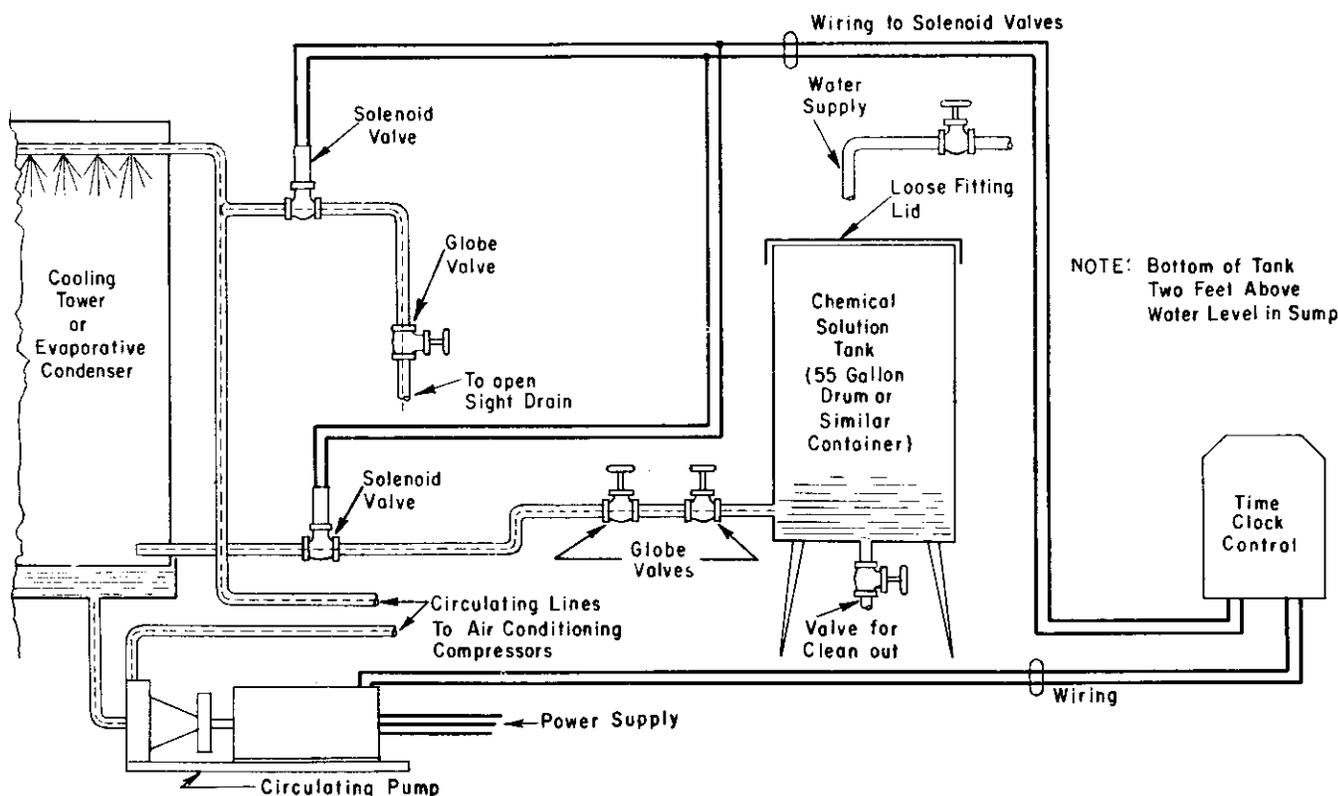
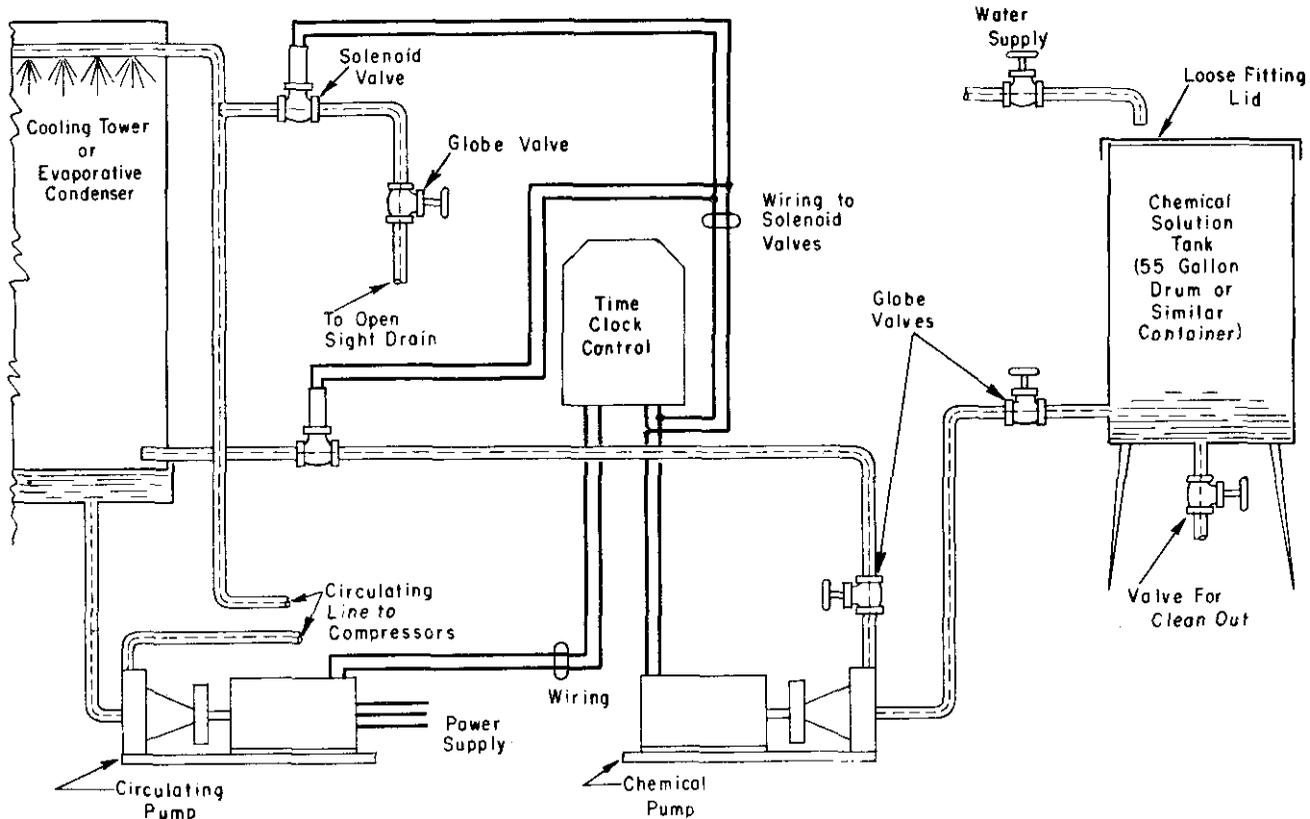

Fig. 2 - Timer - Solenoid Valve Gravity Chemical Feed System
Fig. 3 - Timer - Solenoid Valve Pumped Chemical Feed System
7.03 On small open-type systems where the cooling tower or evaporative condenser is accessible, the chemicals may be fed by gravity to the sump from a tank mounted above the sump. Because a continuous drip of the chemical solution would be too small for proper adjustment, a timer and solenoid valve may be used to allow chemicals to be fed for two minutes or so during each hour of tower operation. The chemicals must be in solution in the tank in order to be fed into the system. The rate of flow of the solution will depend on the amount of water used as the solvent. Since the solution will flow for only two minutes each hour, the flow will be great enough to be regulated satisfactorily by means of a globe valve. Fig. 2 shows this arrangement. A second solenoid valve regulates bleed-off. If the tank can not be elevated above the sump of the tower, then a small pump may be installed as shown in Fig. 3 to feed the chemical solution into the system. This pump would not be as expensive as the type mentioned in Paragraph 7.01.